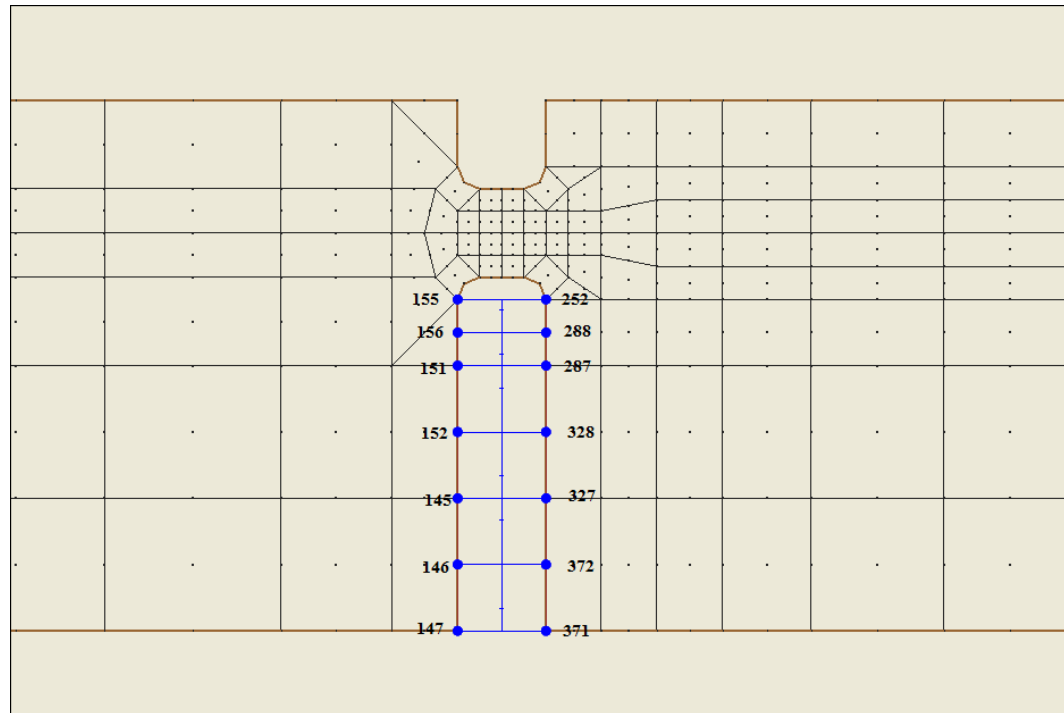

Figure 6 Area where weirs will be added
For this model, a weir will be defined along seven node pairs across the abutment at the bottom middle of the mesh, as shown in Figure 6.
1. **Zoom**  in to the area shown in Figure 6.